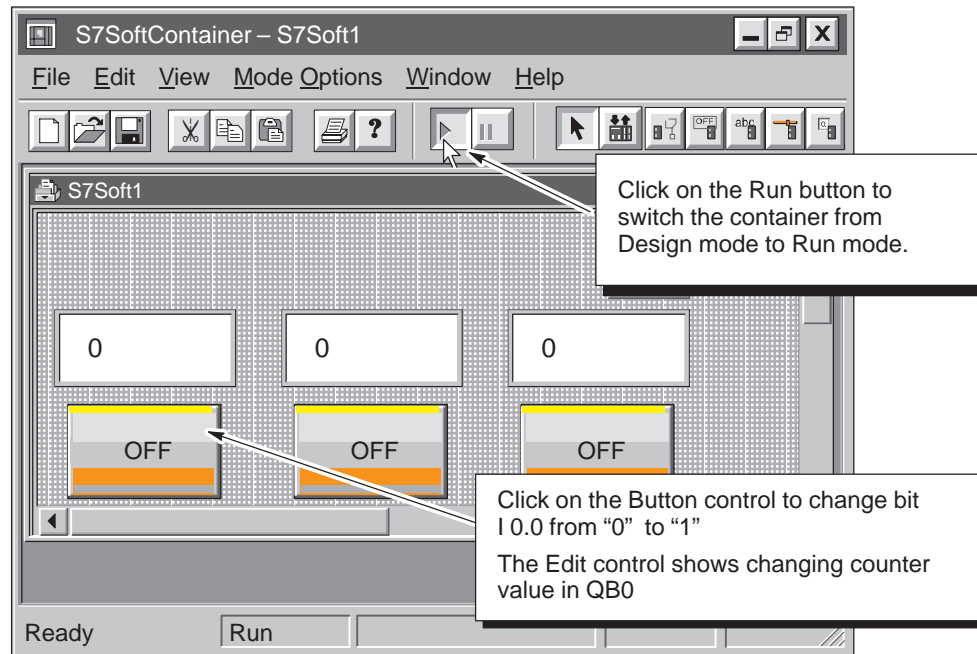

Figure 1-22 Placing the Container into Run Mode
1. Click on the “Run” icon (or select the **Mode ▶ Run** menu command) to switch the container from Design mode to Run mode. See Figure 1-22.